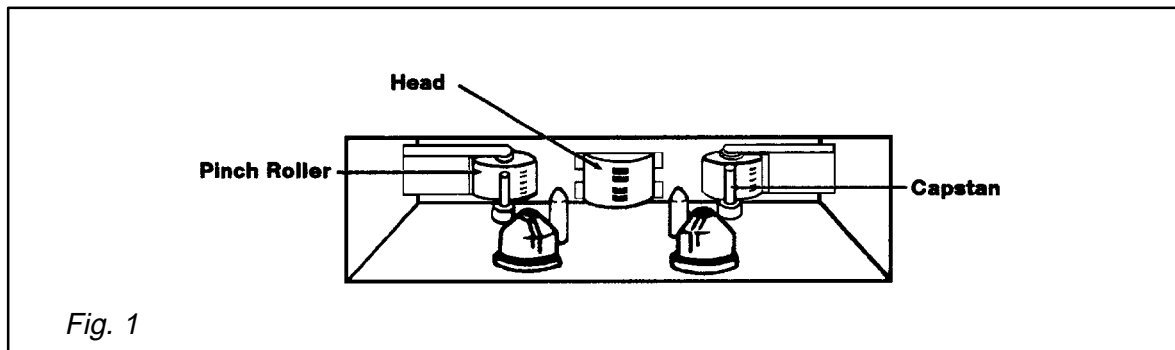

Fig. 1
1. Play the radio on a strong, static-free AM station and slowly move the tip of the antenna mast forward and back approximately 2 inches (Fig. 1). If static noise is not heard, go to Step 2. If static noise is heard during antenna movement, replace the antenna mast and go to Step 3.